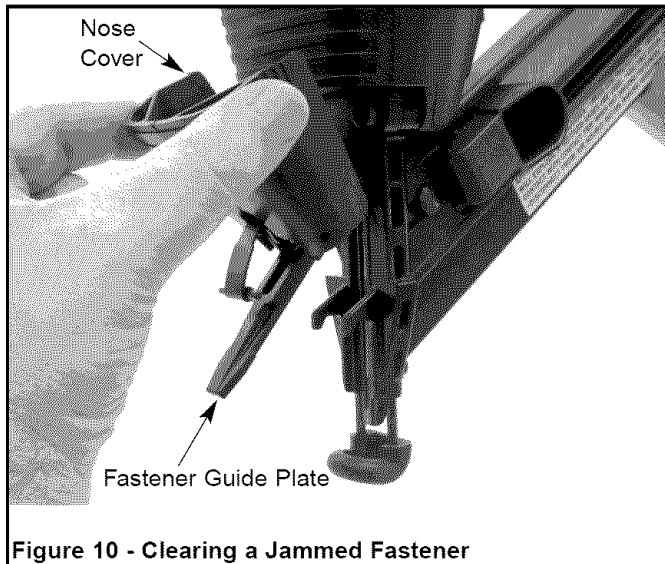

Figure 10 - Clearing a Jammed Fastener
- Grasp nose cover on both sides and pull outward until pin disengages from latch. Then pull upward so that fastener guide plate swings away from magazine (see Figure 10).